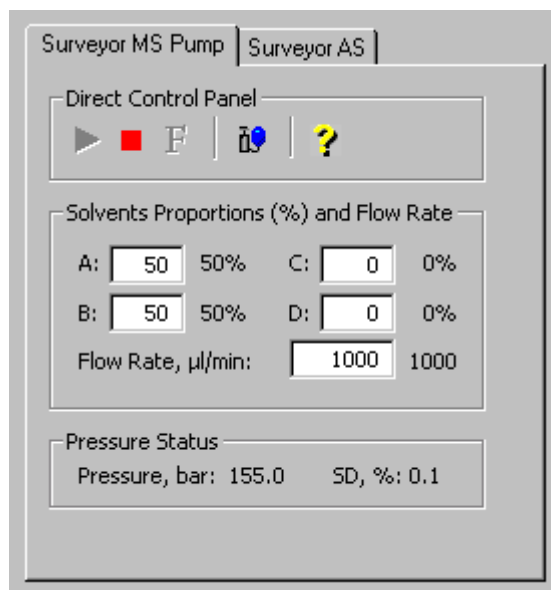

Figure 7-8. Inlet Direct Control view, showing high flow setup
- a. On the Control / Scan Mode toolbar, click on the AS/LC Direct Control button to display the Inlet Direct Control view in the top right corner of the workspace. See Figure 7-8.